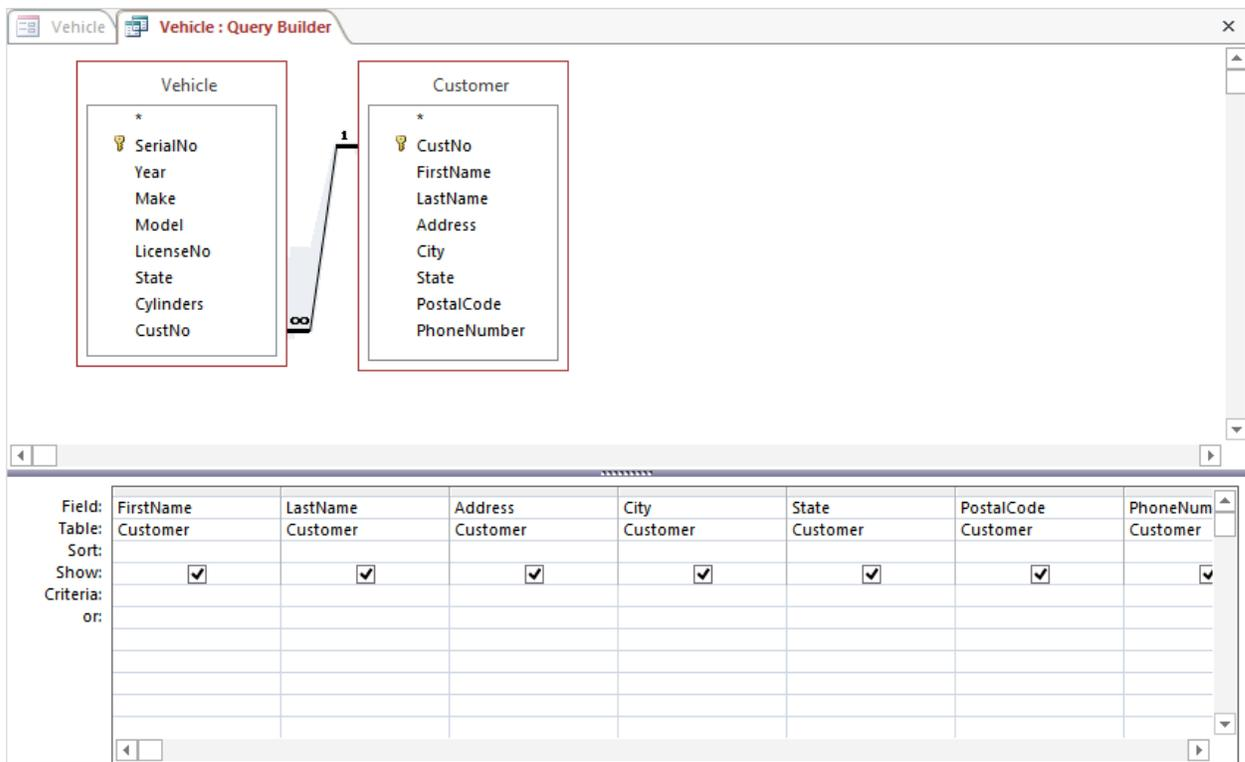
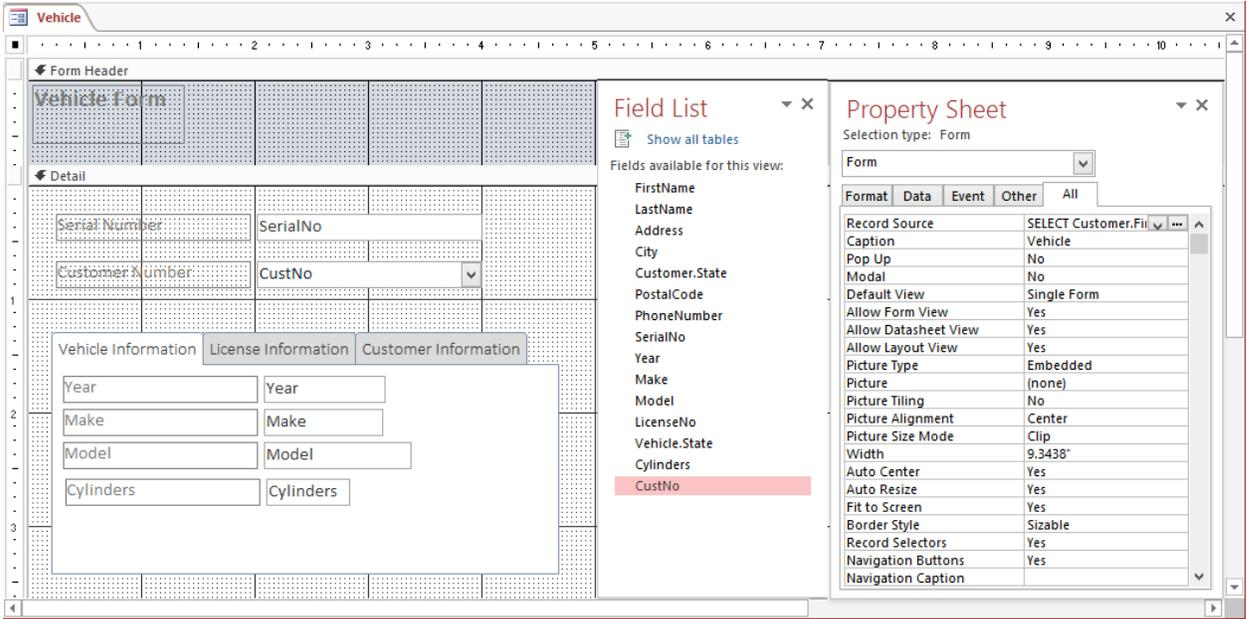

Figure 46: Query for the *Record Source* Property
Figure 47: Fields in the *Customer Information* Tab, Form Property Sheet, and *Customer* Table Field List
- Create the Vehicle Form Record Source Query: Open the main form’s Property Sheet. In the *Record Source* property area, click the ellipsis (...) button to invoke the Query Builder. When it opens, you will see the Query Design window with the *Vehicle* table in the upper window. To add the *Customer* table, click **Design → Show Table** in the Query Setup group and add the *Customer* table. Close the Show Table window. Starting with the *Customer* table, drag all of the fields except for *CustNo* and all of the fields from the *Vehicle* table to the empty grid below (Figure 46). Close Query Design in the view pane. Now the *Record Source* property contains this query (Figure 47).
- Drag Fields onto the Tab: To begin, open and select the *Customer Information* page. Next, open the Field List window (**Design → Add Existing Fields** in the Tools group) as shown in Figure 47. In the field list, hold down the **Shift** key and select (as a unit) all customer fields except *CustNo*. Drag them toward the middle of the tab page (Figure 47). If the field labels are too close to the textboxes, select and align the labels and the textboxes as you have learned previously. When you are finished, your *Vehicle* form should appear as in Figure 48.